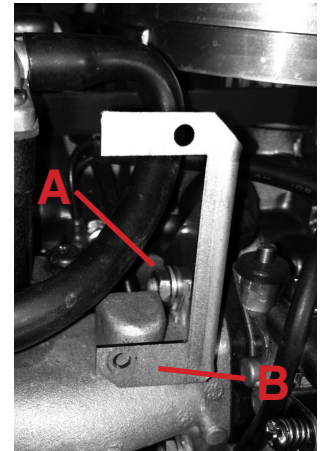
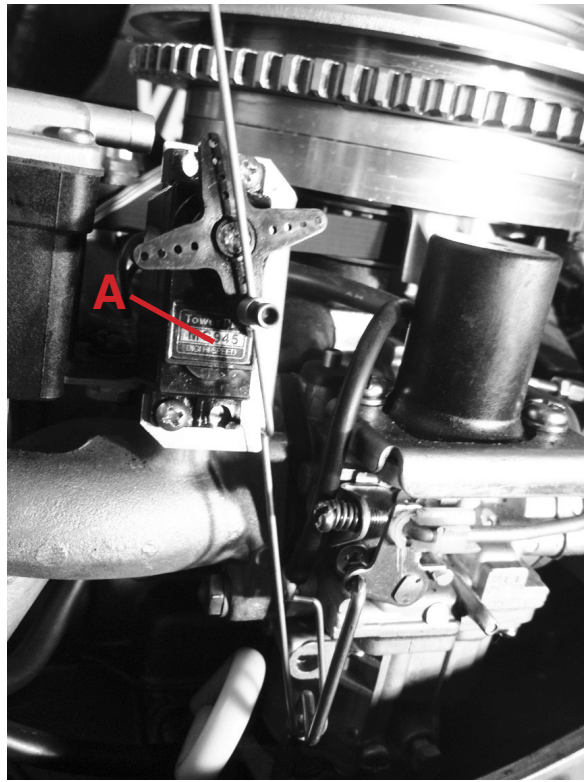

Figure 1
Figure 2 - Complete Installation
Step 2: (See Fig. 1 & 2)
- Remove 10mm nut (A).
- Install servo bracket (B).
Step 3: (See Fig. 2)
- Install servomotor (A) onto mounting bracket with stainless steel screws and locking nuts.
- Install servo arm as shown in Fig. 2.
Step 12: (See Fig. 2):